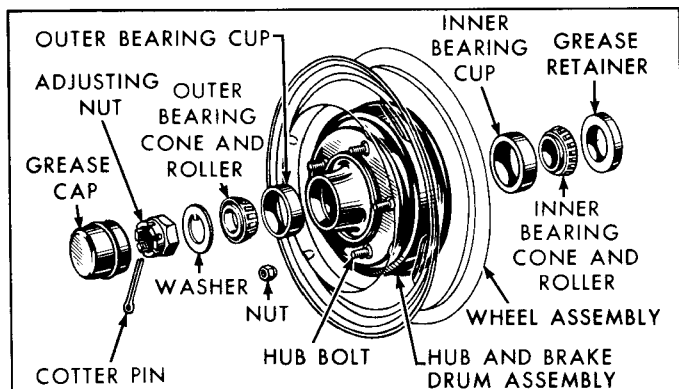

Fig. 1-3—Front Wheel, Bearings and Grease Retainer—(60C-2803)
2. Pry off the wheel cover and remove the grease cap from the hub. See figure 1-3.
If excessive play is encountered or the front wheel rotates roughly or noisily and cannot be properly adjusted to rotate freely without looseness, the bearing cones and rollers and the cups should be inspected and, if necessary, replaced. Refer to figure 1-3.